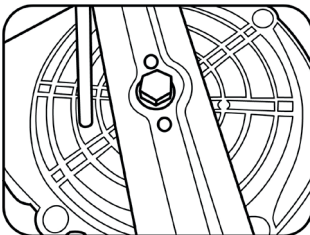

Fig. 7.1
- ✿ Secure the blade against movement using a screwdriver. Figure 7.1